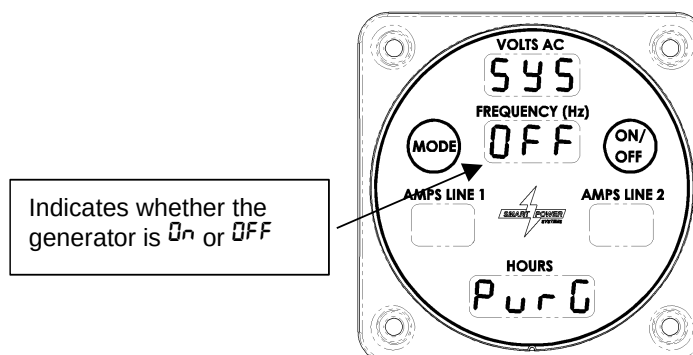

Figure 11 – Display with Purge Option Enabled
- e. Ensure the generator purge option is enabled. Refer to Figure 11.
2. If the Display looks like Figure 11, The purge option is enabled.
6. Return to system purge display by pressing the Mode switch repeatedly until the screen shown in Figure 11 is displayed. Purge will still be active.